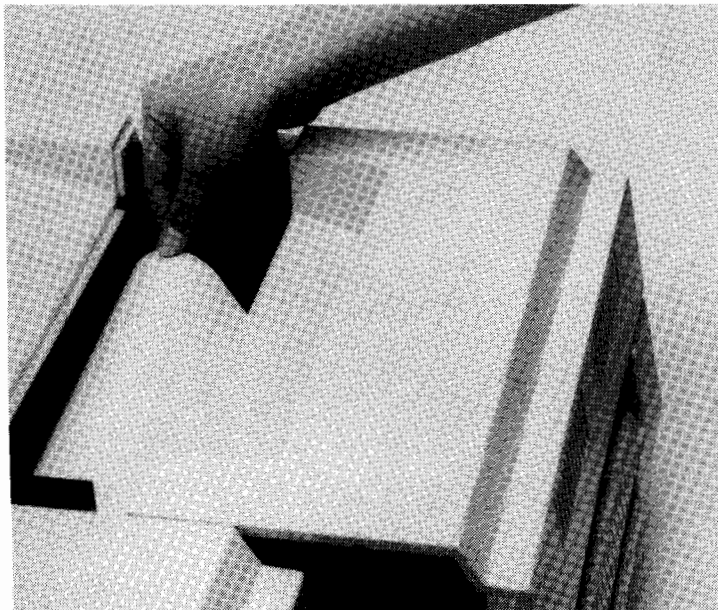

Figure 5-14. Removing Paper
- e. Take the paper out with extreme care so that no torn pieces of paper remain in the fusing unit (see figure 5-14).